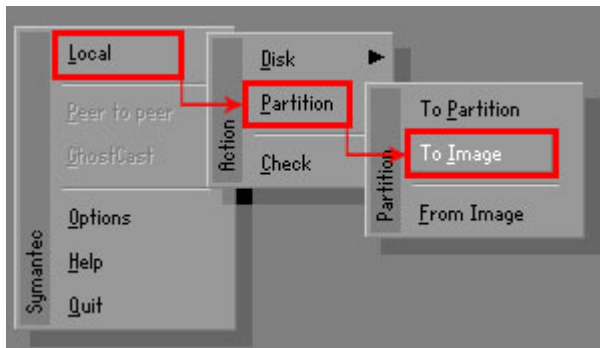

Figure B-13: Symantec Ghost Path
**Step 4:** Use mouse to navigate to the option shown below (Figure B-13).